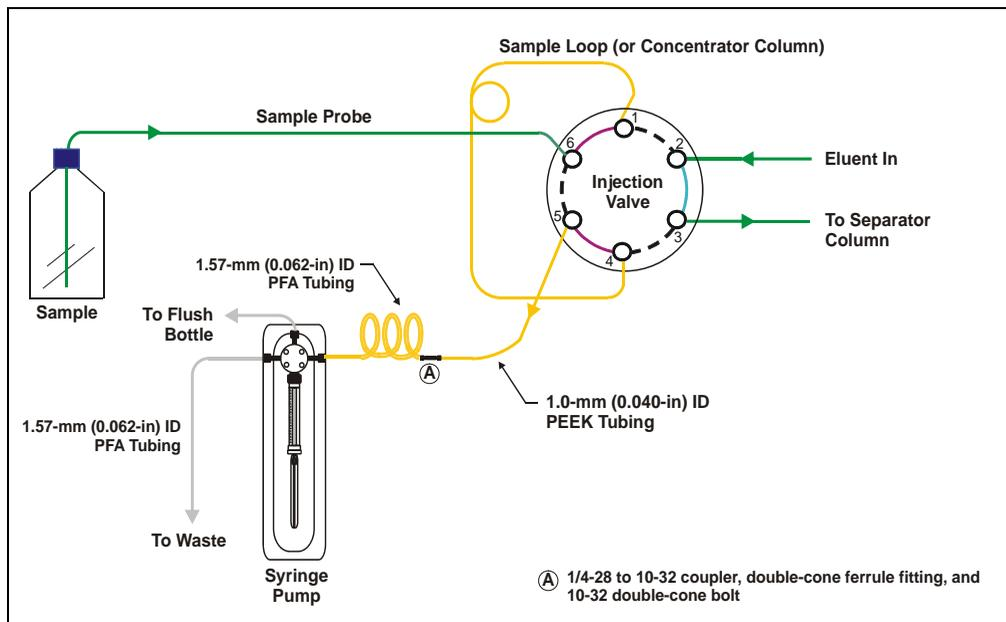
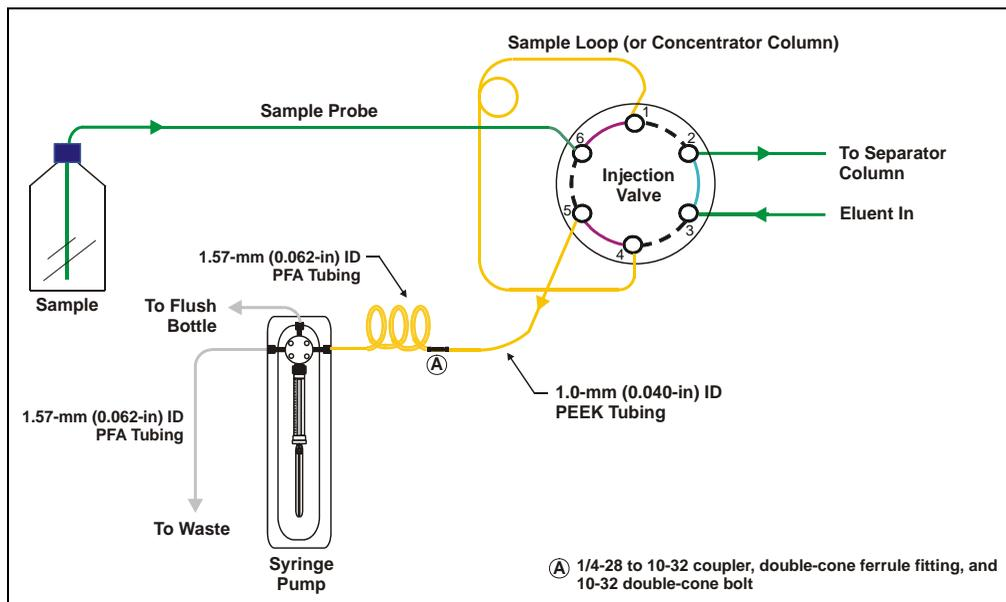

Figure B-9. Syringe Pump Flow Schematic: Push Mode
Figure B-10. Syringe Pump Flow Schematic: Pull Mode
3. Connect the liquid lines as required for either the push mode (see Figure B-9) or the pull mode (see Figure B-10).